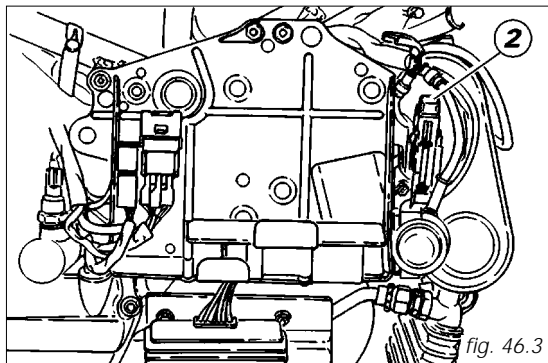

fig. 46.3
E The fuse located on a side of the battery (fig. 46.3) protects the electronic regulator. Remove the fuse cap (2) to expose it.